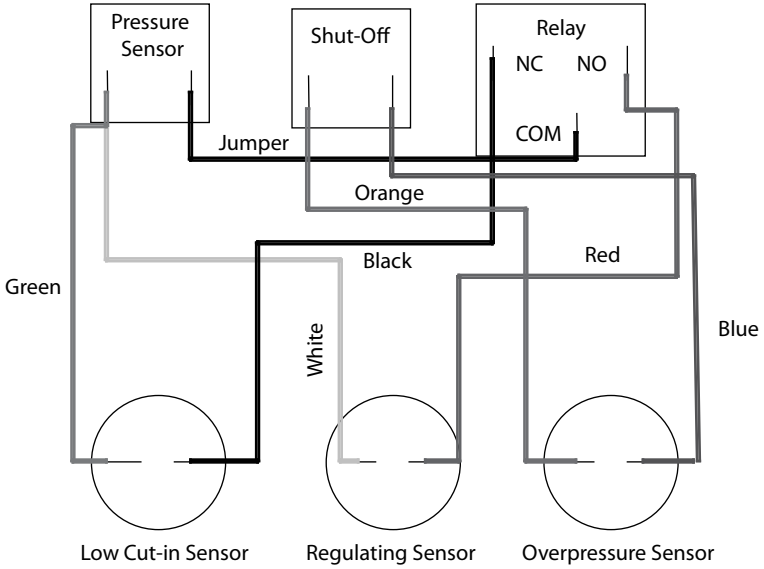

Figure 2: SubDrive300 Wiring
- 4.) Use the supplied 6 conductor pressure sensor cable to attach the sensor cable to the sensor. (See Figure 2, pg 10, for Wiring.)